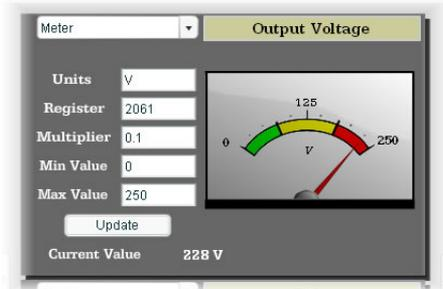

Figure 60: Meter
**Meter:** Refer to Figure 60. This type of meter implements a common panel meter-type display format. The units string is shown on the face of the meter. All raw register values are interpreted as positive numbers (i.e. 0..0xFFFF equates to 0..6553510.)